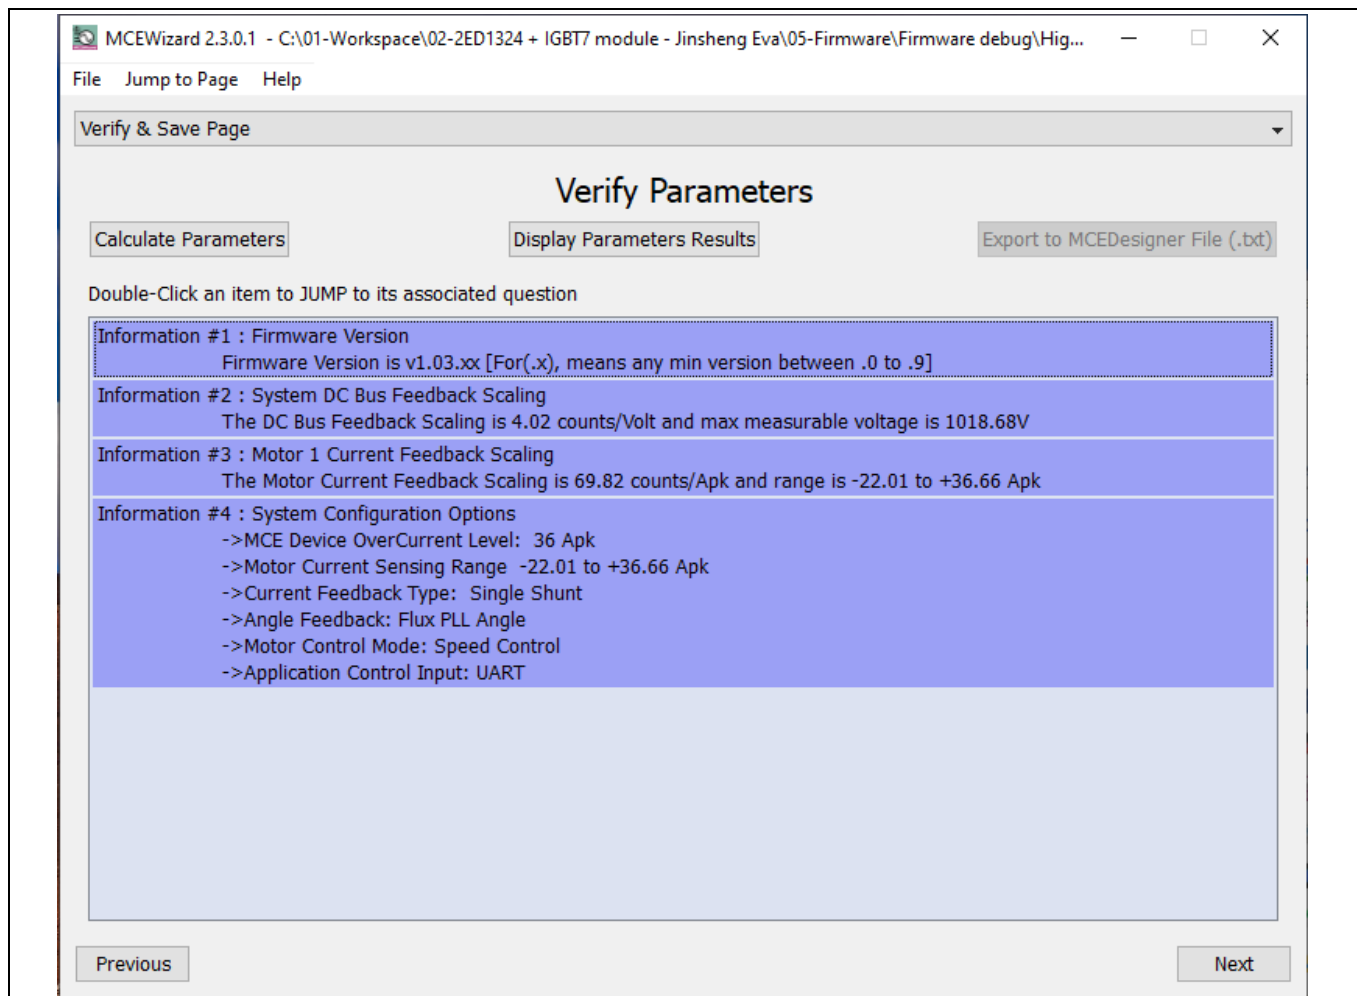

Figure 6 Verify & Save page of the MCEWizard
3. Go to the Verify & Save page and click **Calculate Parameters**. Then, save the drive parameter set into your project directory by clicking **Export to MCEDesigner file (.txt)** (see Figure 6). This saved drive system parameter file will be used later by the MCEDesigner. Refer to Section 2.1.4 or the MCEWizard user guide for more information.
After all the MCEWizard questions are answered, the Verify & Save page opens (see Figure 6.)